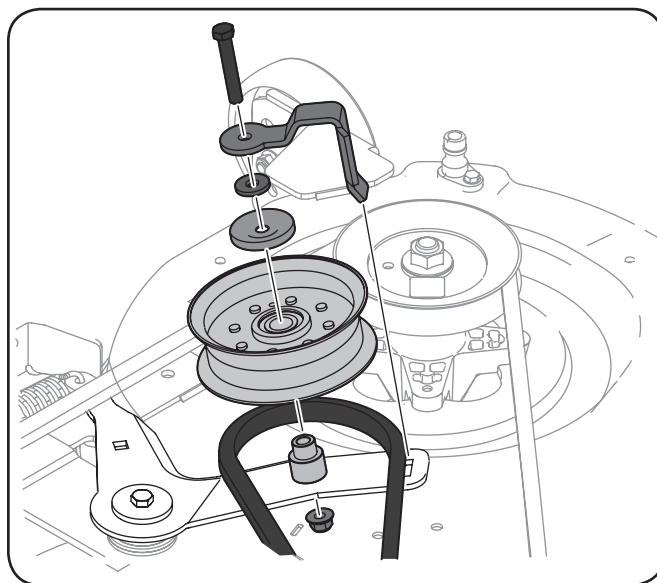

Figura 7-8
3. Afloje y retire el hardware asegurar el ocioso de la cubierta polea, cinta portero, lavadora y espaciadores al soporte estable izquierdo. Consulte la Figura 7-8.
6. Then route the belt around the right deck idler pulley and the left pulley as it is reinstalled on the idler bracket being sure to include the spacers, washer and belt keeper as shown in Figura 7-8.